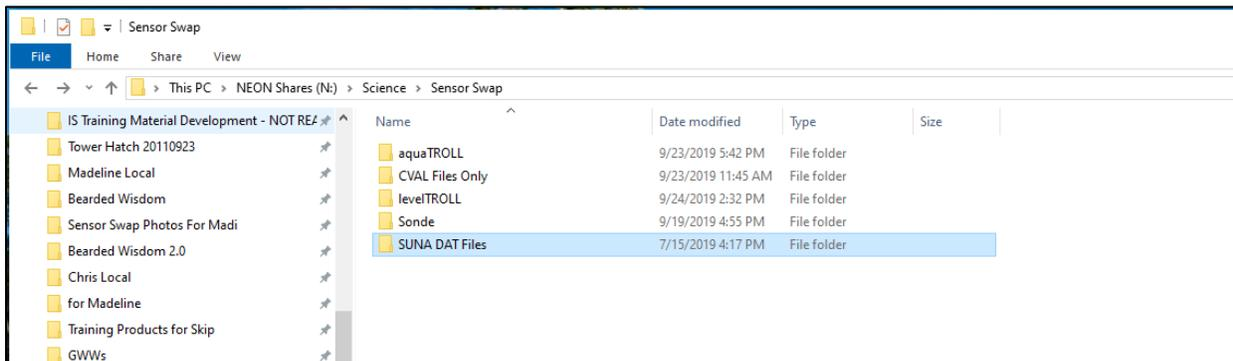
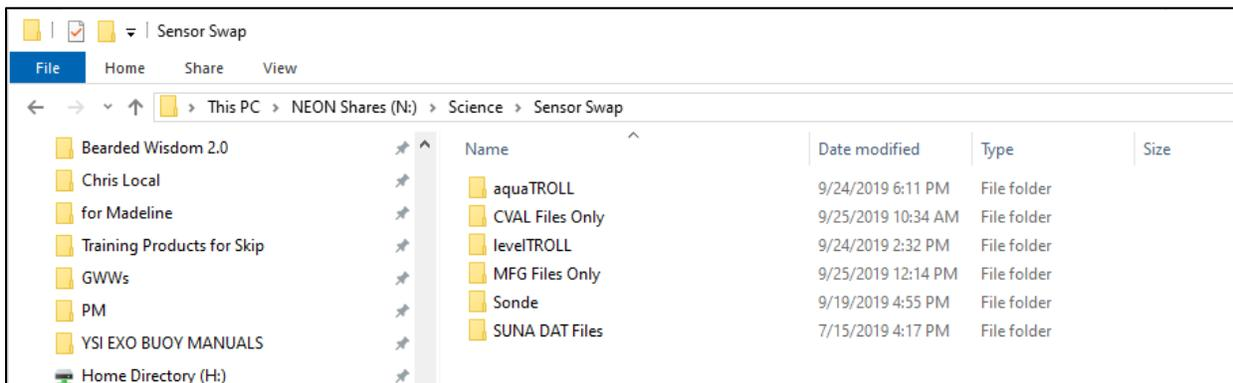

Figure 13. N:\Science\Sensor Swap
Figure 14. CVAL Files Only and MFG Files Only Folder
1. After returning to the Domain Support Facility or via VPN, change the name of the DAT files to **“SITE\_ASSET TAG\_DYYYYDDD.csv”** and save a copy of each .csv data files to the Network drive in the following folder (**Figure 13**): **N:\Science\Sensor Swap\SUNA DAT Files**
- Field Science must drop the files in the **SUNA DAT Files** folder shown in Figure 13 under the prescribed naming convention above. CVAL files go into the **CVAL Files Only** folder and Manufacturing files go into the **MFG Files Only** folder (Figure 14).